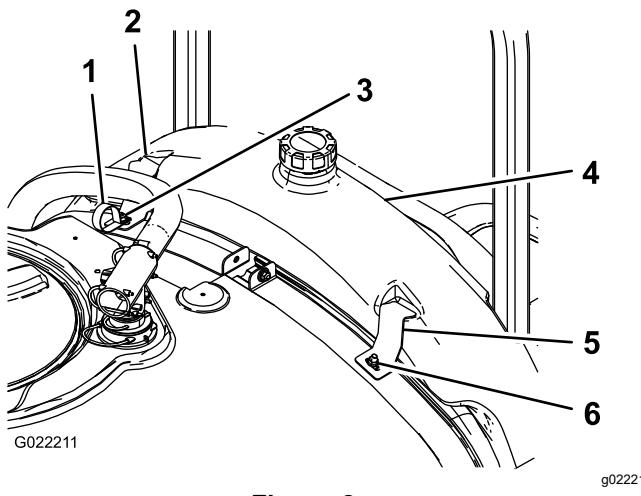

Figure 2
2. Install the rinse tank as shown in Figure 2.
3. Using 2 large washers and flange nuts, install the rinse tank brackets and R-clamp to the previously installed carriage bolts (Figure 2).